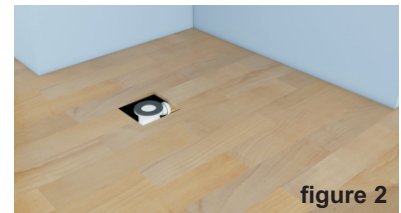

figure 2
1. The drainage pipe and bottom section of the waste trap should be positioned so that the waste trap will mate comfortably to the shower tray without being put under undue stress or tension. Ensure that the waste trap is fixed correctly to the drainage pipe and that there are no leaks at the joint. See figure 2.